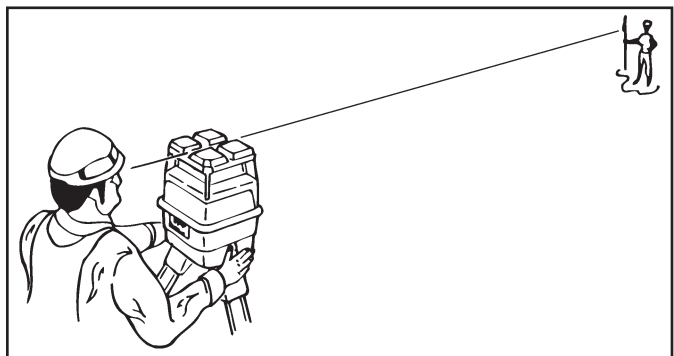

Figure 7. Sight Over Rotating Laser
5. Roughly align one of the axis to the grade stakes by sighting over the top of the Rotating Laser (Refer to Figure 7).
4. Roughly align one of the axis to the grade stakes by sighting over the top of the Rotating Laser (Refer to Figure 7).